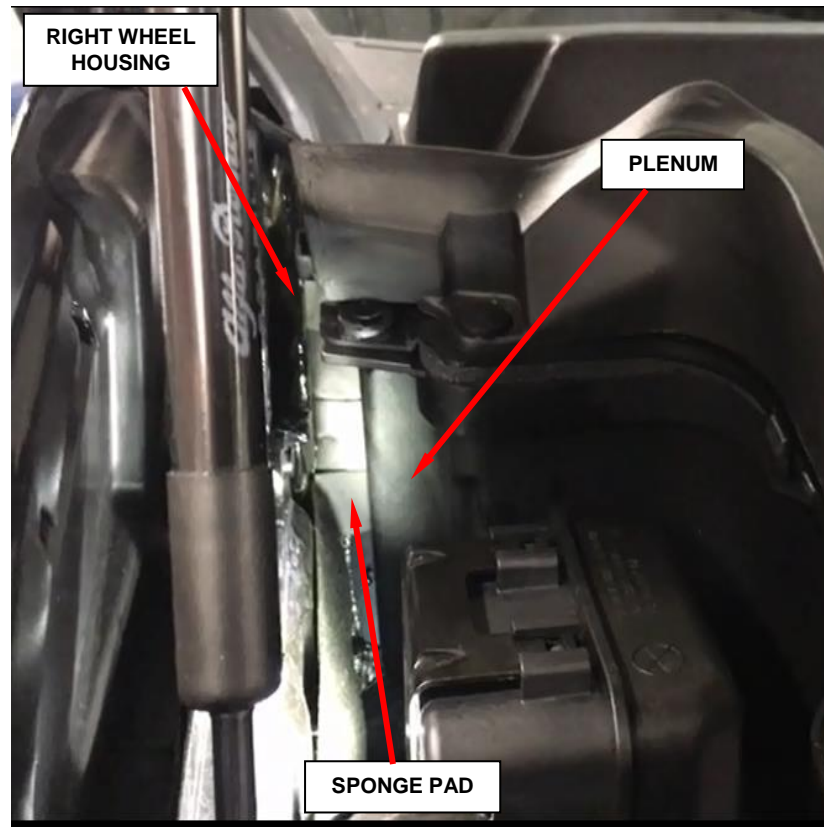

Figure 18 - Sponge Pad Installation
- Remove the adhesive backing then insert the sponge pad between the right side of the plenum and the right wheel housing, pressing it firmly, using a suitable tool, making the edges of the cut adhere well, as shown (Figure 18).